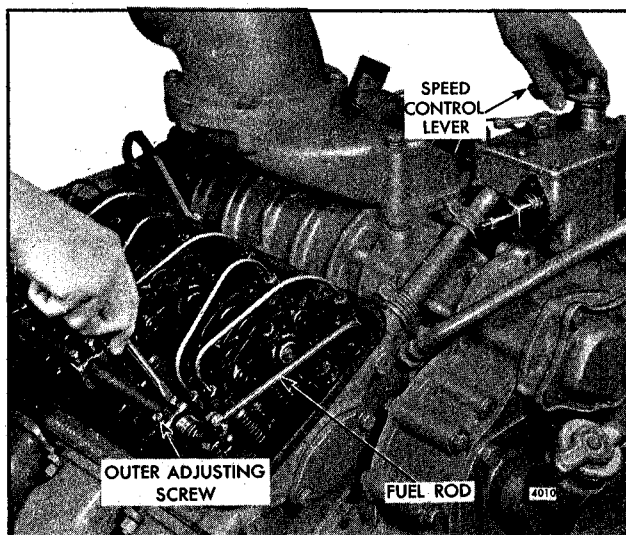

Fig. 3 - Positioning No. 3L Injector Rack Control Lever
6. Move the speed control lever to the maximum speed position with light finger pressure. Turn the inner adjusting screw of the No. 3L injector rack control lever down (Fig. 3) until a slight movement of the control tube lever is observed or a step-up in effort to turn the screw driver is noted. This will place the No. 3L injector in the *full-fuel* position. Turn the outer adjusting screw down until it bottoms lightly on the injector control tube. Then, alternately tighten both the inner and outer adjusting screws. This should result in placing the governor linkage and control tube assembly in the same positions they will attain while the engine is running at full-load.